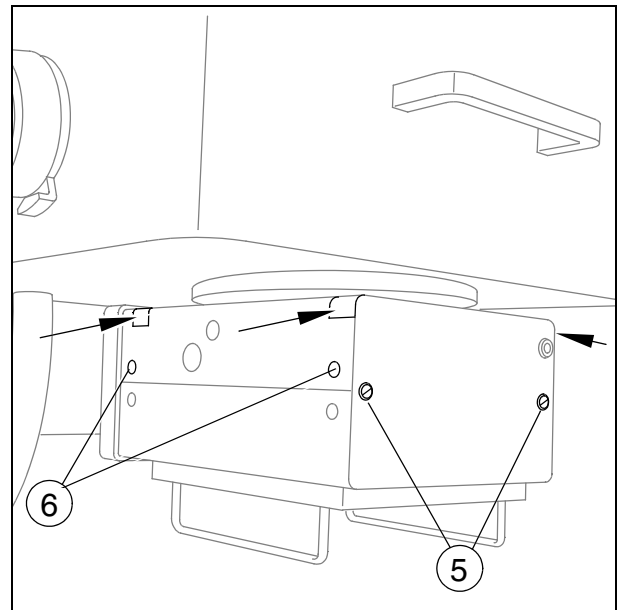

Fig. 5
- Remove the two screws ( 5/ Fig.5) and remove the back panel.
- Remove two screws on each side (6/ Fig.5) of the upper cover.